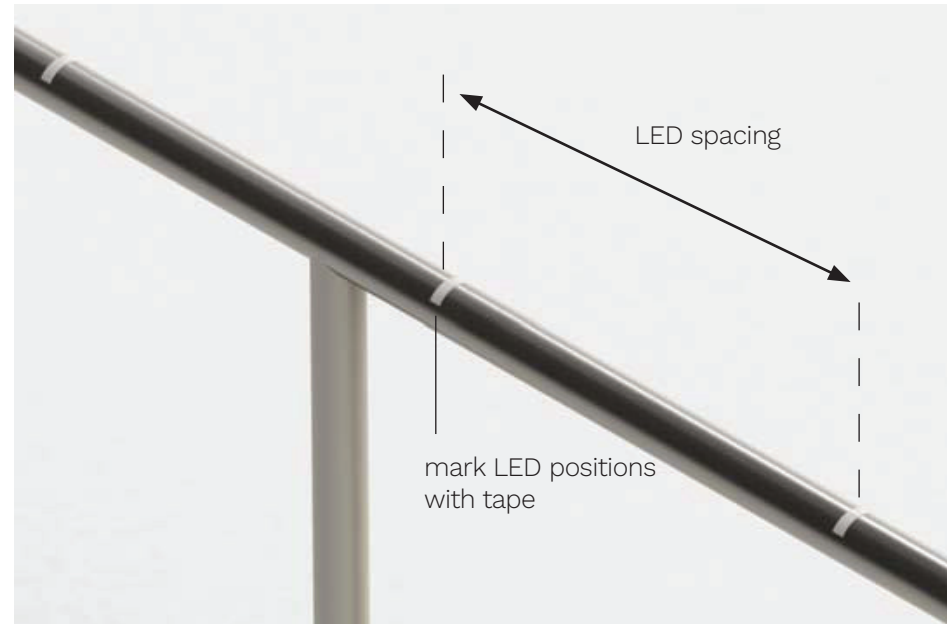

Fig 1.1. Measure and mark the LED Puck positions on the rail.
1.1 Measure and mark the LED Puck positions on the rail using a short length of masking tape (**Fig 1.1**).